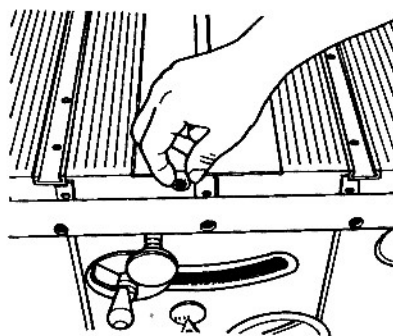

Fig. A-8
11. For the remaining three holes in the fence tube which line up with holes in the table edge, place a spacer between the table and tube, as illustrated in Fig. A-8. The spacer should stay in position by itself. If it moves, slightly tighten the previously attached hex nuts. This will pull the tube closer to the table. Hold a screw on a Phillips screwdriver and insert the screw through the tube and spacer, then into the hole in the table. (If you drop the screw in the tube, retrieve it with a magnet, dowel rod or long stick.)